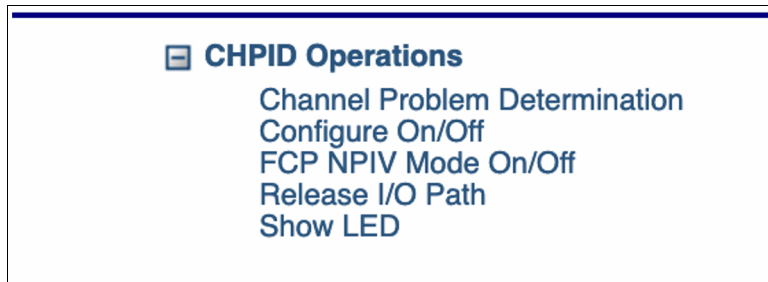

Figure 19 Select the FCP NPIV Mode On/Off entry
2. Select the **FCP NPIV Mode On/Off** entry from the CHPID Operations menu in the bottom center pane. See Figure 19.